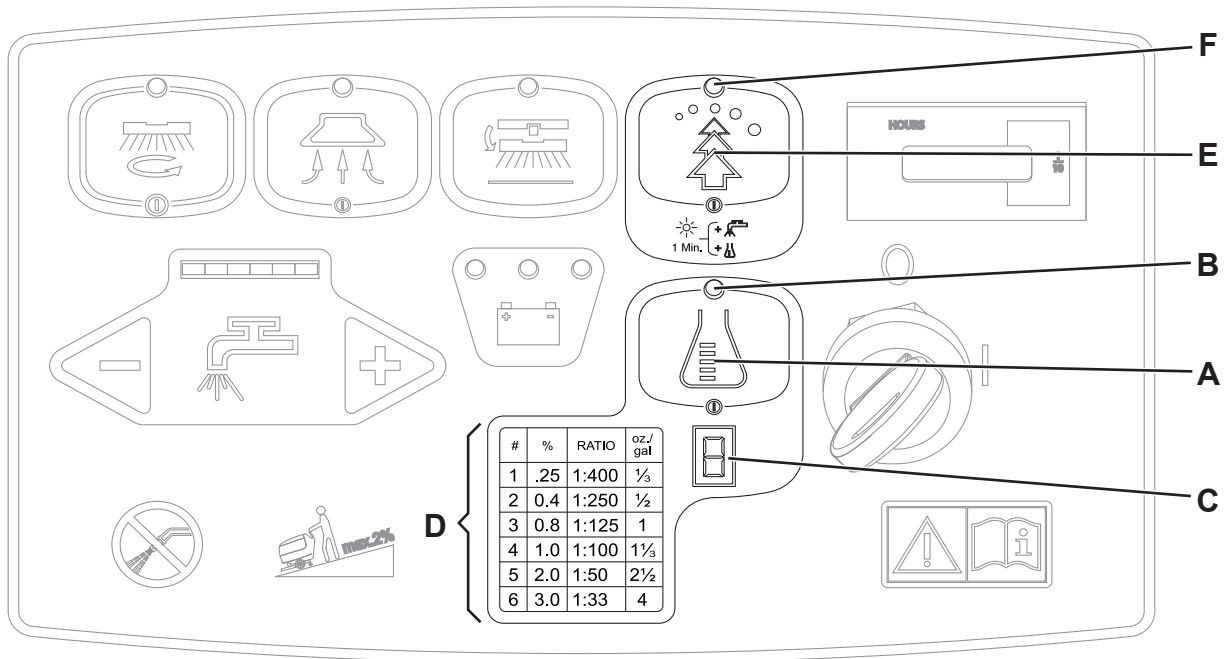

Figure 5
The system used to mix the detergent with the washing water can be activated by pressing the detergent flow control switch (A, Fig. 5): when the led indicator (B) is ON, the detergent is added to the washing water.
Press the EcoFlex™ switch (E, Fig. 5) whenever you temporarily need a greater washing power.